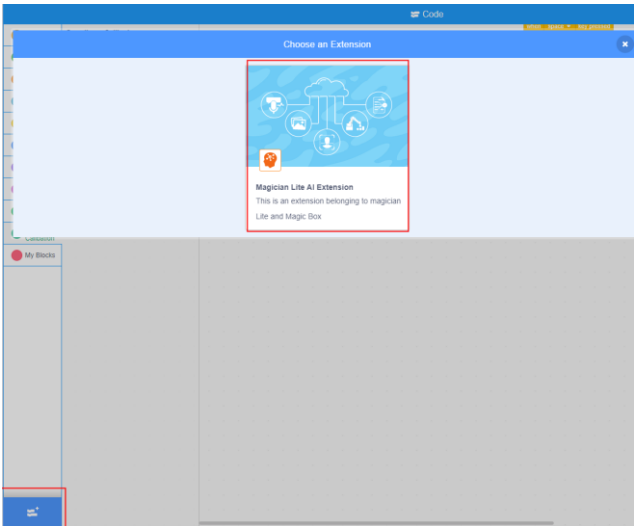

Figure 1.5 Add AI expansion module
Step 3: Add AI extension module, as shown in Figure 1.5.